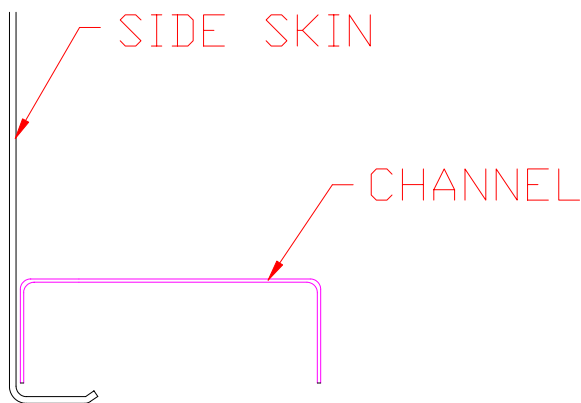

Figure 9.17.4
- 2) Cut channels from stock material (ST-31) for the side skins. The angle between the bulkheads and side skins is approximately 10°. **NOTE:** The channels on the side skins should have the flanges facing downward. Figure 9.17.4.
- 9) Turn the fuselage upright and drill out the channels for the sides to #40. **NOTE:** The side channels need to be back slightly from the inside radius of the side skin. Figure 9.17.4.